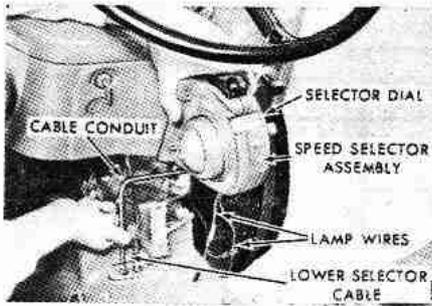

Fig. 242—Removing speed (gear ratio) selector assembly; refer to text.
**245. R&R GEAR SELECTOR ASSEMBLY.** To remove the gear selector assembly, refer to Fig. 242 and proceed as follows: